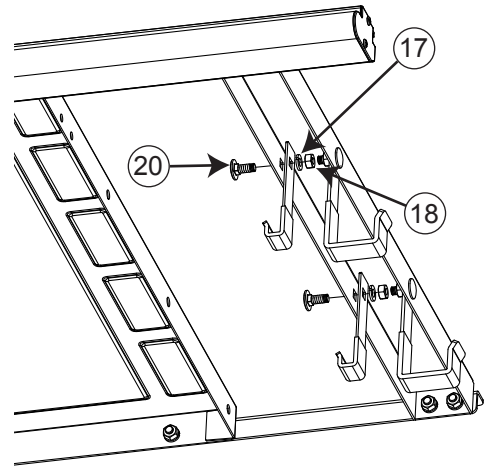

Fig. 11
11. The two small storage hooks also mount to the material support shelf, and can be used to store the miter gauge when not in use. Use two M8 x 20 carriage bolts, two M8 lock washers, and two M8 hex nuts to mount the hooks to the left side of the material support shelf (see Fig. 11). Fully tighten the nuts using a 13 mm wrench.